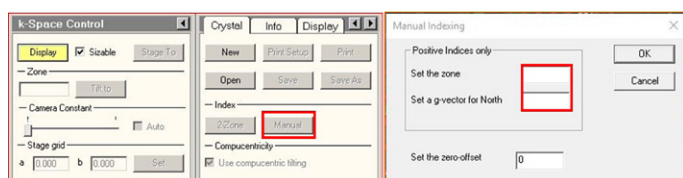

Figure 7. Manual approach to construction of K-space.
- 8.8 Alternatively, the **Manual** approach (Figure 7) can be used for indexing K-space, provided that one zone axis can be found and the exact orientation for north direction is known for the diffraction pattern.
1. Select the correct compucentricity holder calibration, and ensure that **Use Compucentric Tilting** is selected (Figure 7).